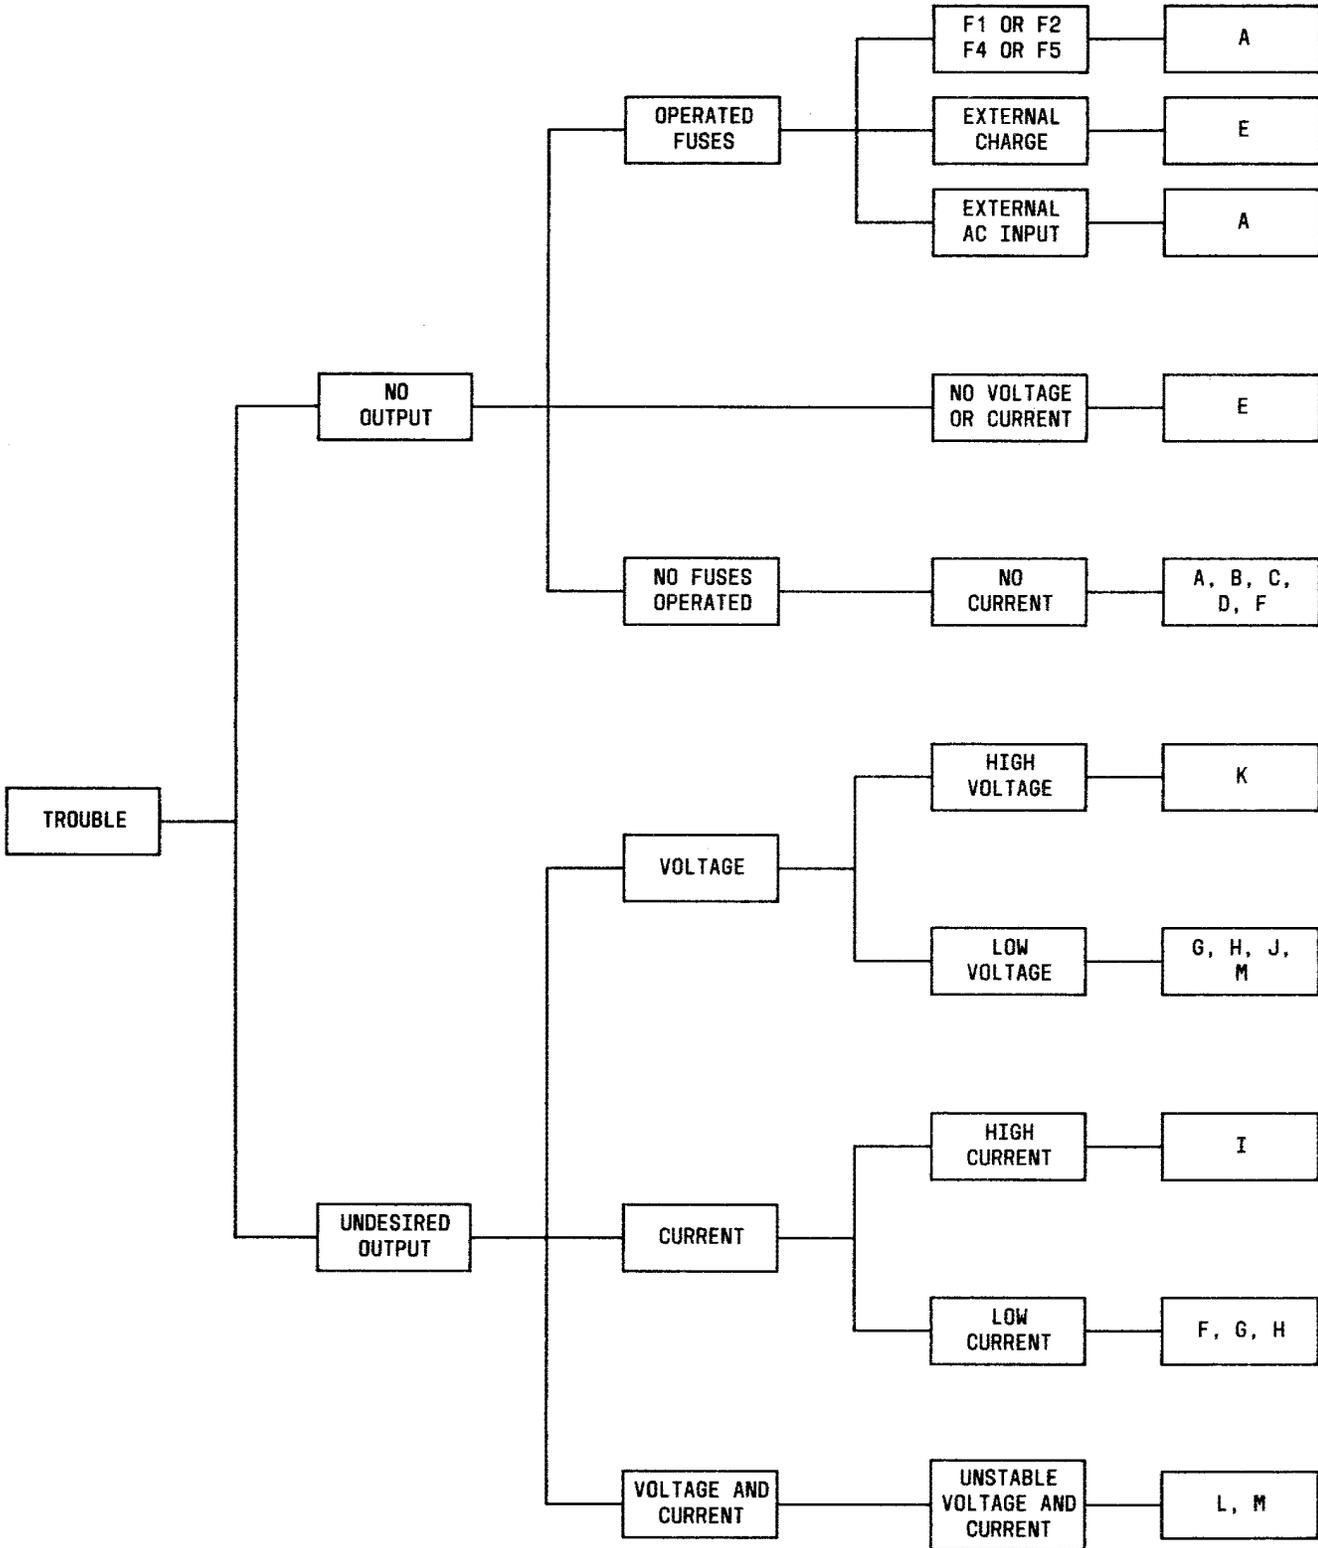

Fig. 5—Trouble-Locating Flowchart
**4.03** The trouble flowchart in Fig. 5 is designed to locate troubles from this viewpoint. The output of the rectifier should be checked and the appropriate category of the flowchart should be consulted to isolate the trouble.